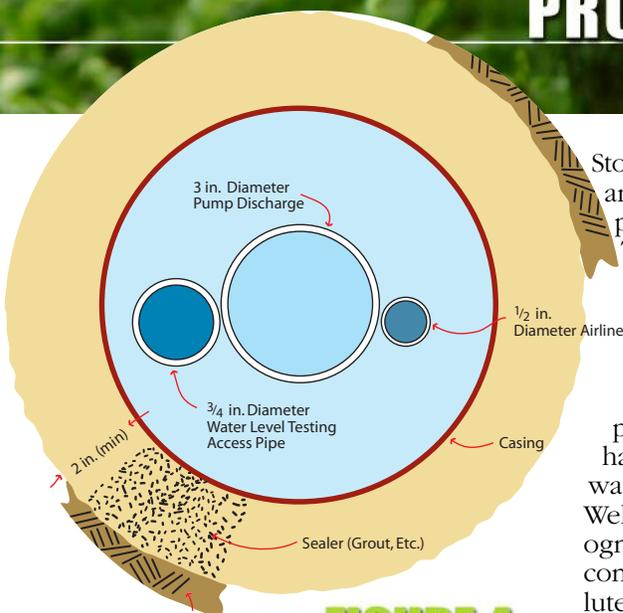

FIGURE 4
Figure 4 shows a plan view of a completed well with services. Note the air line and one-inch diameter pipe access. These features are crucial for well testing. The one-inch diameter pipe allows for the temporary installation of a pressure transducer and “depth-sounder” or “e-tape” to determine the water level during pump testing.
- A one-inch diameter pipe (open at bottom) along the discharge line (see Figure 4) for groundwater head level measuring equipment (i.e., pressure transducers and e-tapes). Pressure transducers provide the most accurate method to conduct pump tests. An e-tape provides alternative confirmation and a backup to the pressure transducers.